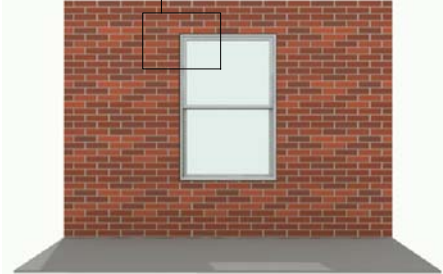

Figure 1: Typical rough and masonry openings.
1. **Rough openings (RO) and Masonry openings (MO)** should be 1/2" (13) wider than the outside measurement of the frame and 1/2" (13) higher than the outside measurement of the frame for (RO) or 1/4" (6) higher than the outside measurement of the frame for (MO). When framing rough opening, care should be taken to ensure the sill plate is level and the opening is square, straight and plumb. See figure 1.
2. On shapes such as polygons and round tops make sure there is proper bracing. See figure 1.
*NOTE: On standard wood frame construction with brick veneer, make sure there is at least 1/2" (13) between bottom of window sill (or eventual placement of the window) and the top row of brick to avoid "brick bind".*